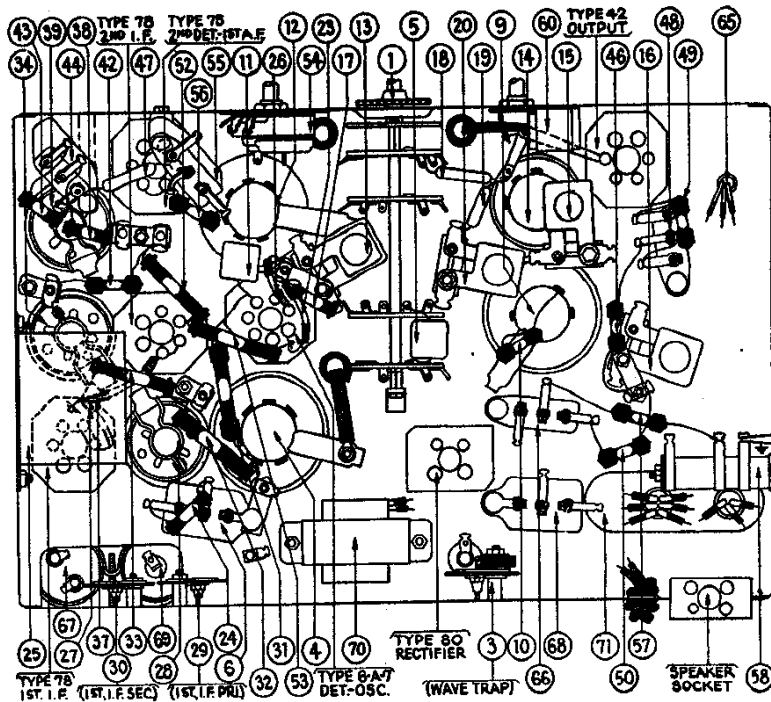

FIG. 4—Bottom View of Chassis, Showing Parts, and Position of Compensating Condensers Located,—and Reached,—from Below Chassis.
The output meter is connected to the primary terminals of the Output Transformer. Set the signal generator of the Model 048 at 460 K.C.—the intermediate frequency of Model 44,—and adjust each of the I.F. compensating condensers in turn, to give maximum response in the output of the receiver. The location of the I.F. compensating condensers is shown in Figure 2 and Figure 4. Figure 2 shows the position of the compensating condensers of the 2nd. I.F. Transformer (2) and of the 3rd. I.F. Transformer (3). Each of these transformers has its dual compensating condenser mounted at its top, and accessible through a hole in the top of the coil shield. In the dual compensators, the Primary circuit is adjusted by the SCREW; the Secondary circuit is adjusted by the hex-head nut. The adjustment of the primary and secondary circuits of the 1st. I.F. Transformer (2) is made by means of two single compensating condensers (2) and (2) mounted underneath, and at the rear of the chassis and accessible from the rear. They are shown in Figures 2 and 4.
Turn the Wave-Band Switch to Range 2, and adjust the Station Selector to 3.6 M.C. The "Antenna" connection between the Signal Generator and the receiver chassis must be removed for this adjustment. The output of the Signal Generator will be too great, otherwise. Adjust the compensating condenser (2) to give maximum response in the output circuit. This compensating condenser is located underneath the chassis and is not accessible from above. See Figure 4.
The Model 048 Set Tester is used again. Turn the Wave-Band Switch to Range 2, Station Selector to 1.5 M.C. Set the Signal Generator (Model 048) at 1500 K.C. (1.5 M.C.). The "Antenna" connection between the Signal Generator and the chassis should be restored. Adjust compensating condenser (2), located underneath the chassis, (Figure 4). Adjustment is possible from the underside of the chassis.
Place the Wave-Band Switch at Range 1, and the Station Selector to 1400 K.C. Set the Signal Generator (Model 048) at 1400 K.C. Adjust the compensating condenser (15), which is located underneath the chassis. See Figure 4. This adjustment is possible from the underside of chassis.
With Wave-Band Switch at Range 1, and Station Selector at 520 K.C., set the Signal Generator of the Model 048 at 520 K.C., and adjust the compensating condenser (16), (Figure 4). This compensating condenser is mounted underneath the chassis, and is reached from below.